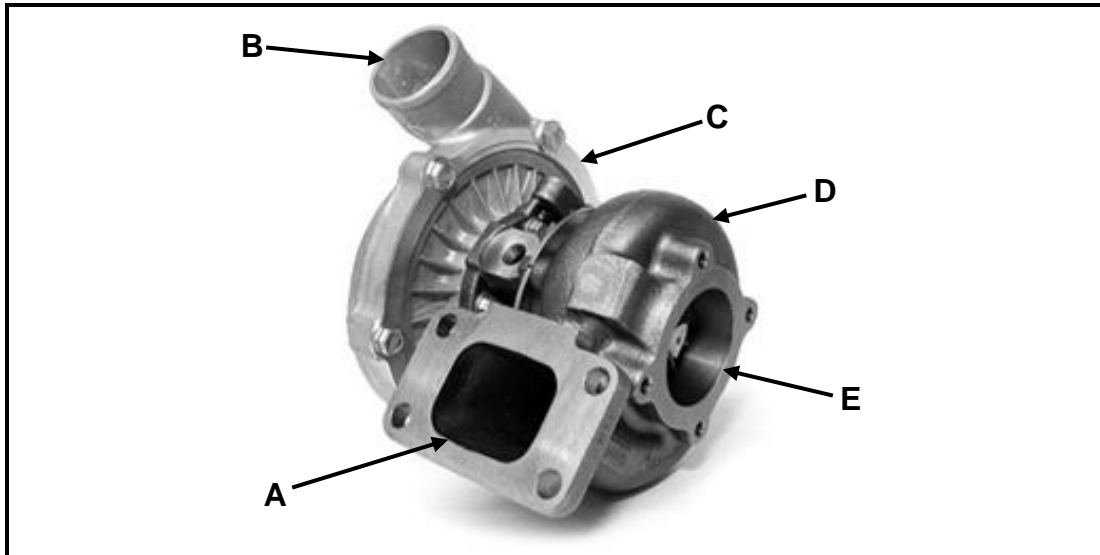

FIGURE 6.2
6.2 FIGURE 6.2 below shows a component that is fitted to an internal combustion engine to increase the power output. Answer the questions that follow.
- 6.2.1 Identify the component shown in FIGURE 6.2. (1)
- 6.2.2 Label **A–E**, the parts of the component in FIGURE 6.2. (5)
- 6.2.3 State the main function of the component in FIGURE 6.2. (1)